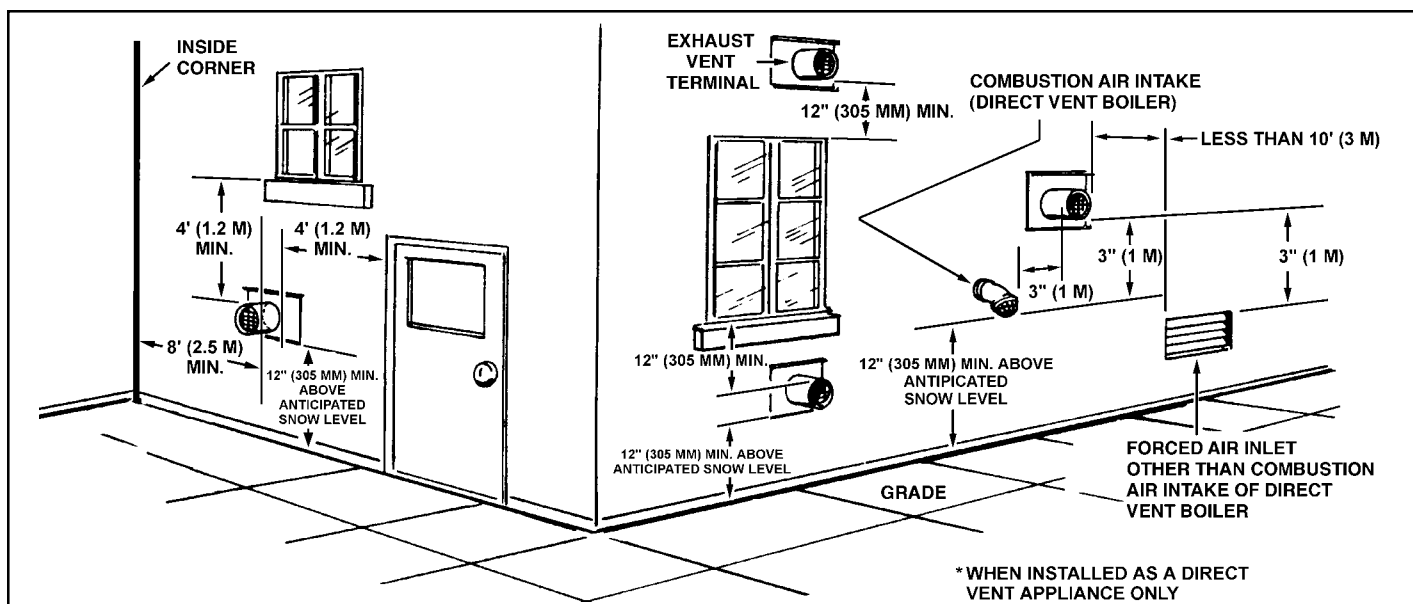

FIGURE 8. SIDEWALL EXHAUST VENTING
1. The vent system must terminate with a AL 29-4C® Vent Through-the-Wall Termination (TWT). Plan the terminal location based on the dimensions given in figure 8. Do not locate the terminal within eight (8) feet (2.5 m) of an inside corner of a building or adjacent to outside walls, shrubs or other such objects that may cause adverse wind conditions in the immediate area.
The TWT shall terminate at least three (3) feet [1.0 m] above any forced air inlet within ten (10) feet [3.0 m], except when the forced air inlet is the combustion air intake of a direct vent appliance. The TWT shall terminate at least four (4) feet [1.2 m] below, four (4) feet [1.2 m] horizontally from or one (1) foot [305 mm] above any door, window or gravity air inlet into any building as provided in the latest edition of the NATIONAL FUEL GAS CODE ANSI Z223.1, see figure 8. For Canadian installations consult CSA B149.1-00 (and latest addenda).
- ON SIDEWALL VENT INSTALLATION, REFER TO FIGURE 8 FOR SPACING SPECIFICATIONS